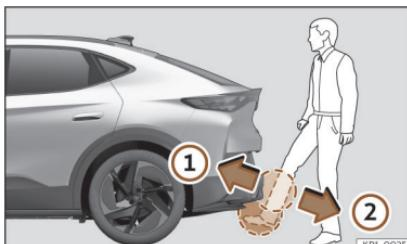

Fig. 80 Rear lid with sensor-controlled opening (Easy Open).
- With a brisk movement, bring your foot and lower leg as close as you can to the bumper. The lower part of the leg needs to be close to the upper sensor area and your foot to the lower sensor area >>> Fig. 80 ①.
- Quickly remove your foot and lower leg from the sensor areas >>> Fig. 80 ②. The rear lid will open automatically.